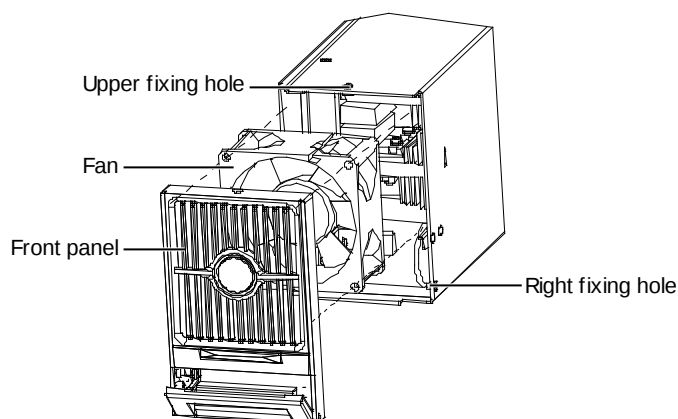

Figure 5-2 Disassembling the front panel
1. Use a cross screwdriver to remove the three screws from the fixing holes and pull out the front panel, as shown in Figure 5-2.